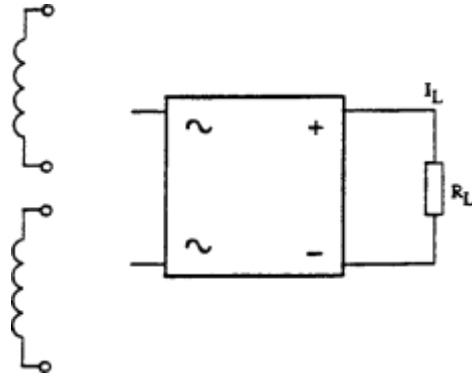

Figure 38.
6. Show how the transformer secondary wires in Figure 38 are to be connected to provide maximum load current